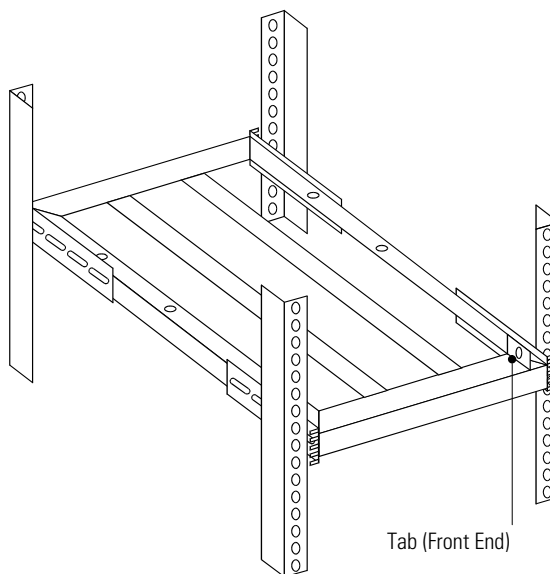

Figure 8. Attaching the Frame to the Rack
5. Attach the frame to the rack using appropriately-sized bolts for your rack (not supplied). See Figure 8.
NOTE Figure 8 is only an example for mounting position. Different rack manufacturers may vary in design and/or dimensions. Some racks have a “C” channel in the front; the frame mounting brackets should be attached to the rear of the “C.”